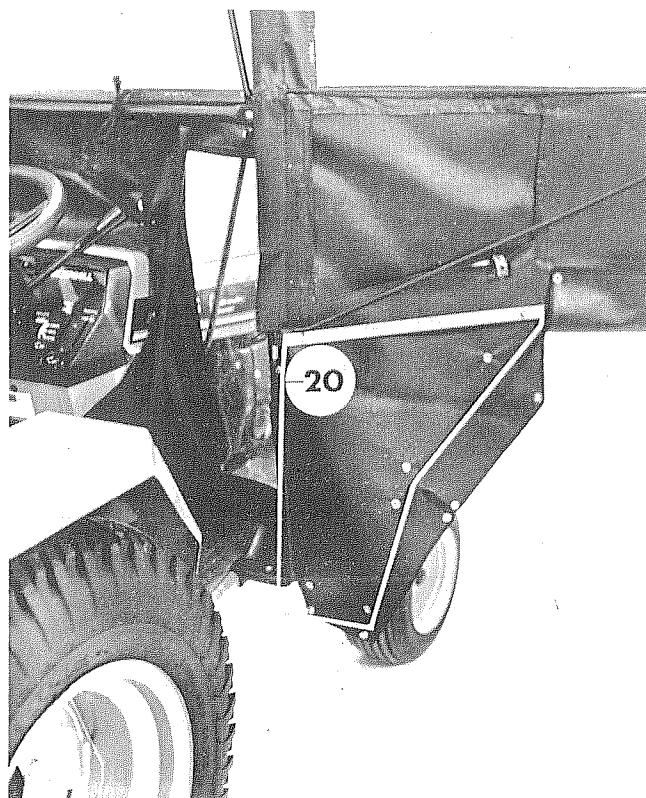

FIGURE 10
STEP 10; SEE FIGURE 10:
- A. Insert two 1/4" x 5/8" bolts through the holes in the bottom of the door frame so that the heads are against the vinyl. Place the right DOOR BOTTOM (20) over the bolts. Add nuts and tighten.